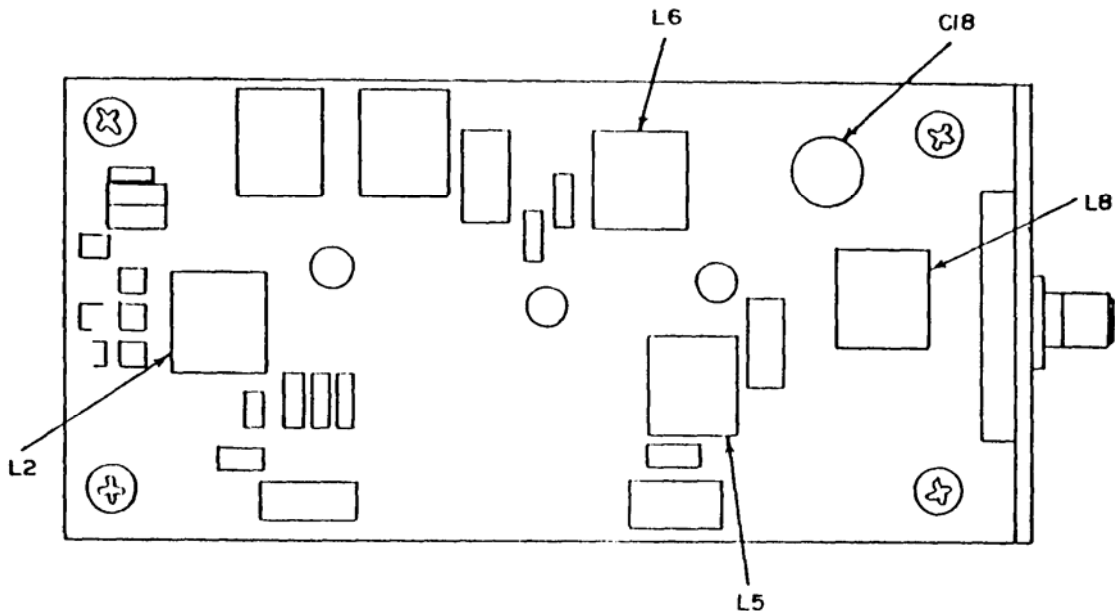

Figure 4. Adjustment locations – A1 through A5 boards.
- (1) Adjust A5L2 (fig. 4) for frequency counter indication of 108.0000 MHz (R).
- (2) Adjust A5L2 (fig. 4) for frequency counter indication of 108.0500 MHz. Repeat **a(2)** and (3) above for best compromise (R).
- (3) Adjust A4L2 (fig. 4) for frequency counter indication of 108.1000 MHz (R).
- (4) Adjust A4L2 (fig. 4) for frequency counter indication of 108.1500 MHz. Repeat **a(5)** and (6) above for best compromise (R).
- (5) Adjust A3L2 (fig. 4) for frequency counter indication of 334.70000 MHz (R).
(6) Adjust A3L2 (fig. 4) for frequency counter indication of 334.55000 (334.1000) MHz. Repeat a(8) and (9) above for best compromise (R).
(7) Adjust A1L2 (fig. 4) for frequency counter indication of 75.00000 MHz (R).
(1) Adjust A1C18 (fig. 4) for indication greater than -20 dBm. If indication is less than -20 dBm, adjust A1C18 for maximum indication and then adjust A1L8 (fig. 4) for indication greater than -20 dBm (R).
(2) Adjust A5C18 (fig. 4) for indication greater than -10 dBm. If indication is less than -10 dBm, adjust A5C18 for maximum indication and then adjust A5L8 (fig. 4) for indication greater than -10 dBm (R).
(3) Adjust A4C18 (fig. 4) for indication greater than -10 dBm. If indication is less than -10 dBm, adjust A4C18 for maximum indication and then adjust A4L8 (fig. 4) for indication greater than -10 dBm (R).
(4) Adjust A3C18 (fig. 4) for indication greater than -20 dBm. If indication is less than -20 dBm, adjust A3C18 for maximum indication and then adjust A3L8 (fig. 4) for indication greater than -20 dBm (R).
(4) Disconnect equipment setup and reconnect audio analyzer to measuring receiver modulation output. Measure distortion. If distortion is still high, adjust A5L5 and A5L6 (fig. 4) for minimum distortion (R).
If A5L5 and A5L6 (fig. 4) were adjusted, recheck paragraph **15a(4)** above VOR RF level.